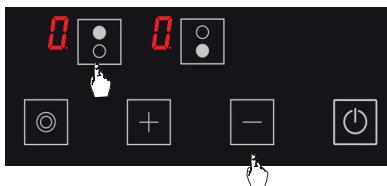

Figure 14
1. Press upper hob selection key (ⓐ) and minus key (⊖) simultaneously, you shall hear a short warning signal at this time. (see Fig. 14) Then, remove your fingers from the stove control panel.